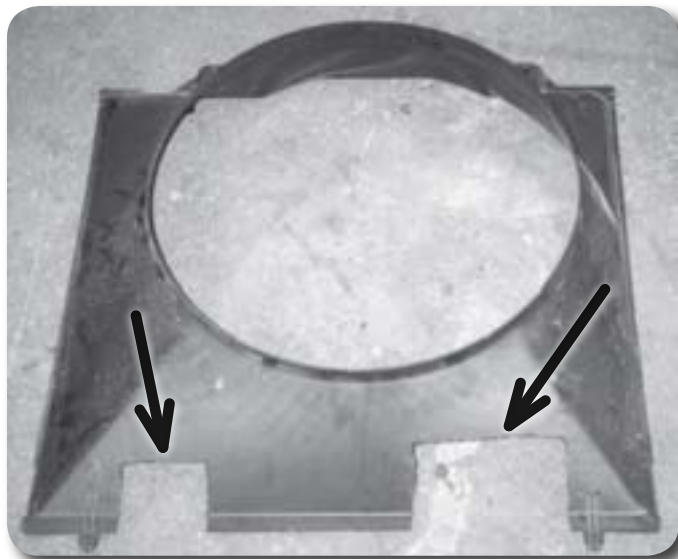

Figure 12
49. The fan shroud requires modification to adequately clear the lower radiator hoses and lines **Figure 12**. Measure in from the driver's side of the shroud 4-1/2" and make a mark. From there measure 4" and mark. Measure up 4" into the shroud and mark. Remove the section of the shroud that has been marked.